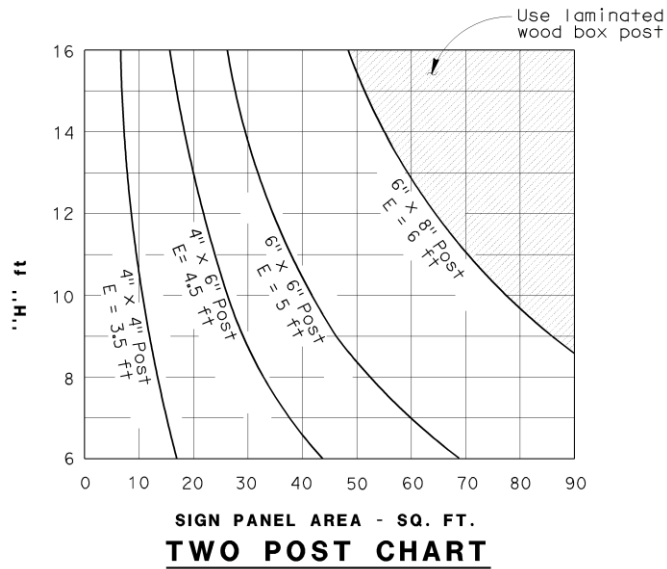

Figure 5: Post Sizing Chart
- Use the chart in Figure 5 to choose the post size. If in the cross-hatched portion of the chart or outside the bounds of the chart, then solid sawn wood post not be used.